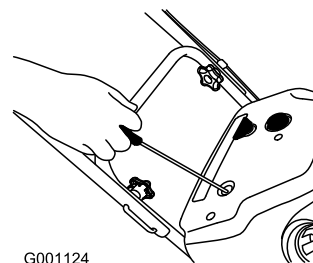

Figure 14
- Pull the recoil starter (Figure 14).